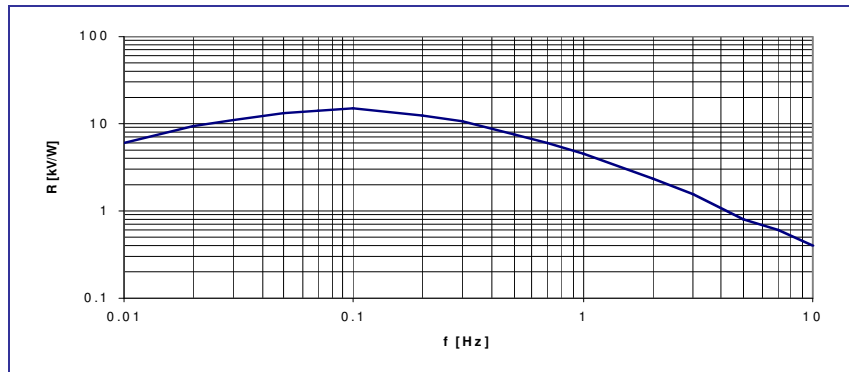

Fig.5: Frequency response
- 1) Responsivity is measured within spectral range 7 - 14 μm as per fig. 5 at 1Hz.